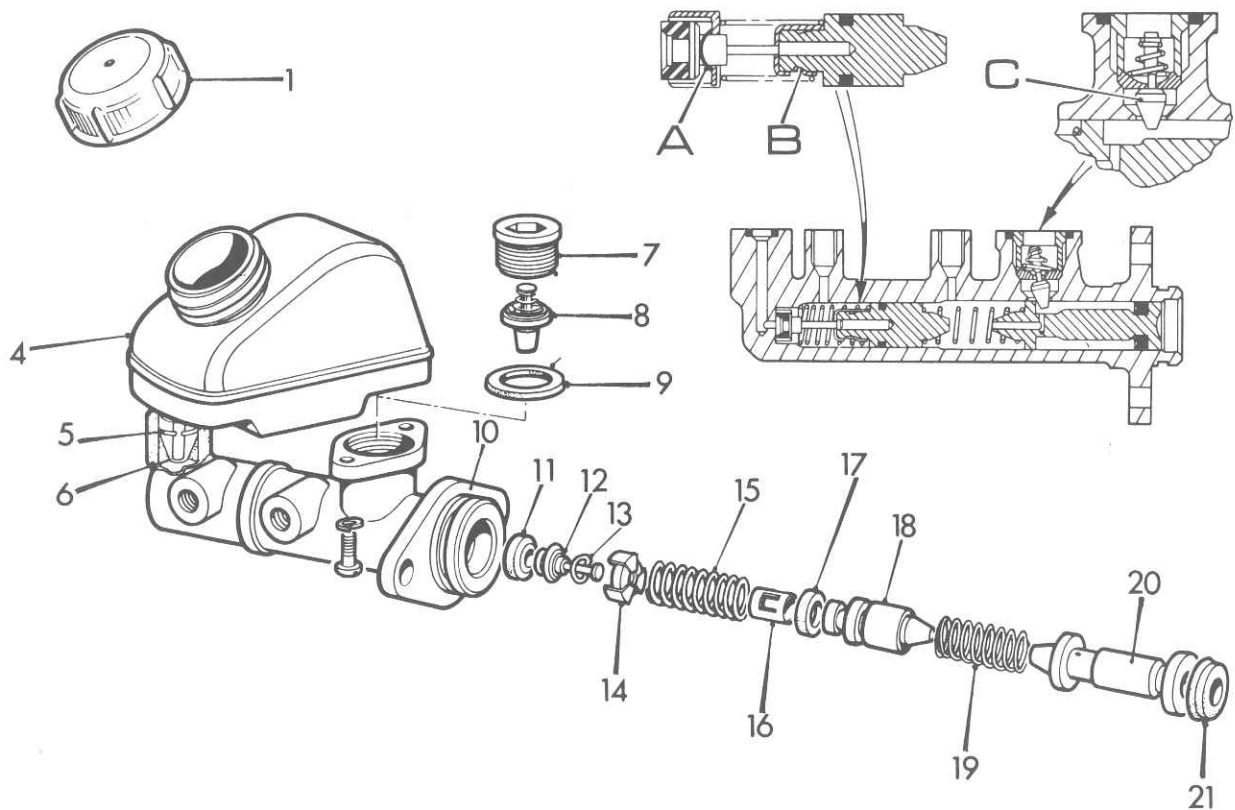

Fig. 9.32. Dual master cylinder components
- 14 Undo and remove the two screws holding the reservoir to the cylinder body. Lift away the reservoir. Using a suitable sized Allen key or wrench unscrew the tipping valve nut and lift away the seal. Using a suitable diameter rod, push the primary plunger down the bore, this operation enabling the tipping valve to be withdrawn (see Fig. 9.32).